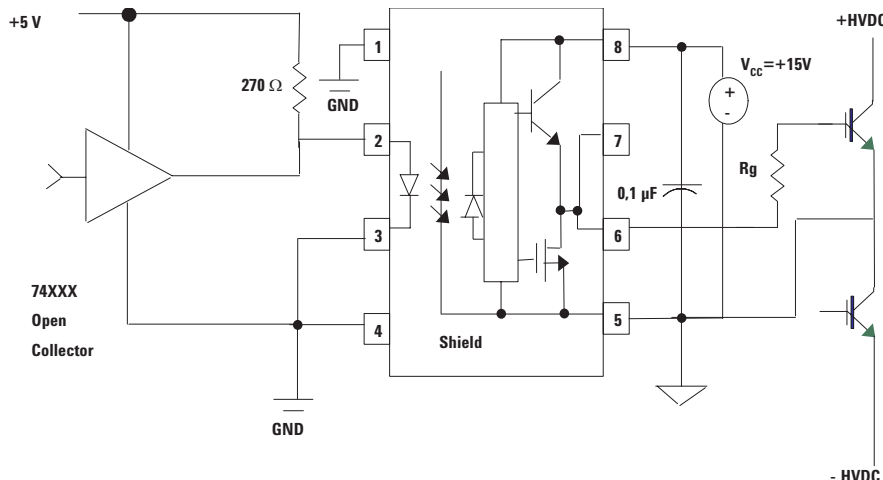
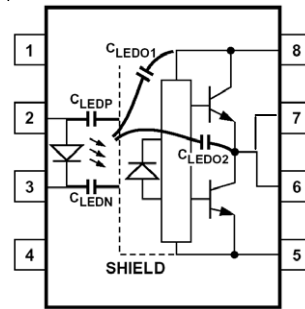
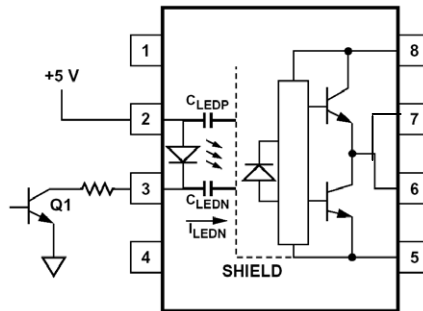
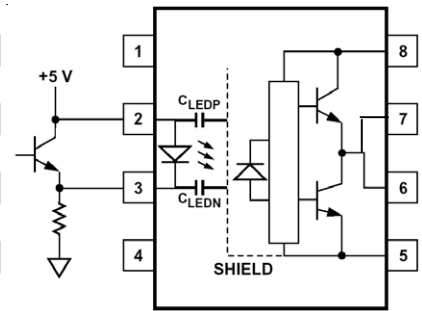

Figure 25. Recommended LED Drive and Application Circuit for HCPL-3180
Figure 30. Optocoupler Input to Output Capacitance Model for Shielded Optocouplers.
Figure 32. Not Recommended Open Collector Drive Circuit.
Figure 33. Recommended LED Drive Circuit for Ultra-High CMR
To keep the IGBT firmly off, the HCPL-3180 has a very low maximum V_{OL} specification of 0.4 V. The HCPL-3180 realizes the very low V_{OL} by using a DMOS transistor with 1 W (typical) on resistance in its pull down circuit. When the HCPL-3180 is in the low state, the IGBT gate is shorted to the emitter by $R_g + 1$ W. Minimizing R_g and the lead inductance from the HCPL-3180 to the IGBT gate and emitter (possibly by mounting HCPL-3180 on a small PC board directly above the IGBT) can eliminate the need for negative IGBT gate drive in many applications as shown in Figure 25. Care should be taken with such a PC board design to avoid routing the IGBT collector or emitter traces close to the HCPL-3180 input as this can result in unwanted coupling of transient signals into the input of HCPL-3180 and degrade performance.
Step 1: Calculate R_g minimum from the I_{OL} peak specification. The IGBT and R_g in Figure 25 can be analyzed as a simple RC circuit with a voltage supplied by the HCPL-3180.
For the circuit in Figure 25 with the circuit in with I_F (worst
performance by using a detector IC with an optically transparent Faraday shield, which diverts the capacitively coupled current away from the sensitive IC circuitry. However, this shield does not eliminate the capacitive coupling between the LED and optocoupler pins 5-8 as shown in Figure 30. This capacitive coupling causes perturbations in the LED current during common mode transients and becomes the major source of CMR failures for a shielded optocoupler. The main design objective of a high CMR LED drive circuit becomes keeping the LED in the proper state (on or off) during common mode transients. For example, the recommended application circuit (Figure 25), can achieve 10 kV/us CMR while minimizing component complexity.
The open collector drive circuit, shown in Figure 32, cannot keep the LED off during a $+dV_{CM}/dt$ transient, since all the current flowing through C_{LEDN} must be supplied by the LED, and it is not recommended for applications requiring ultra high CMR_L performance. Figure 33 is an alternative drive circuit, which like the recommended application circuit (Figure 25), does achieve ultra high CMR performance by shunting the LED in the off state.